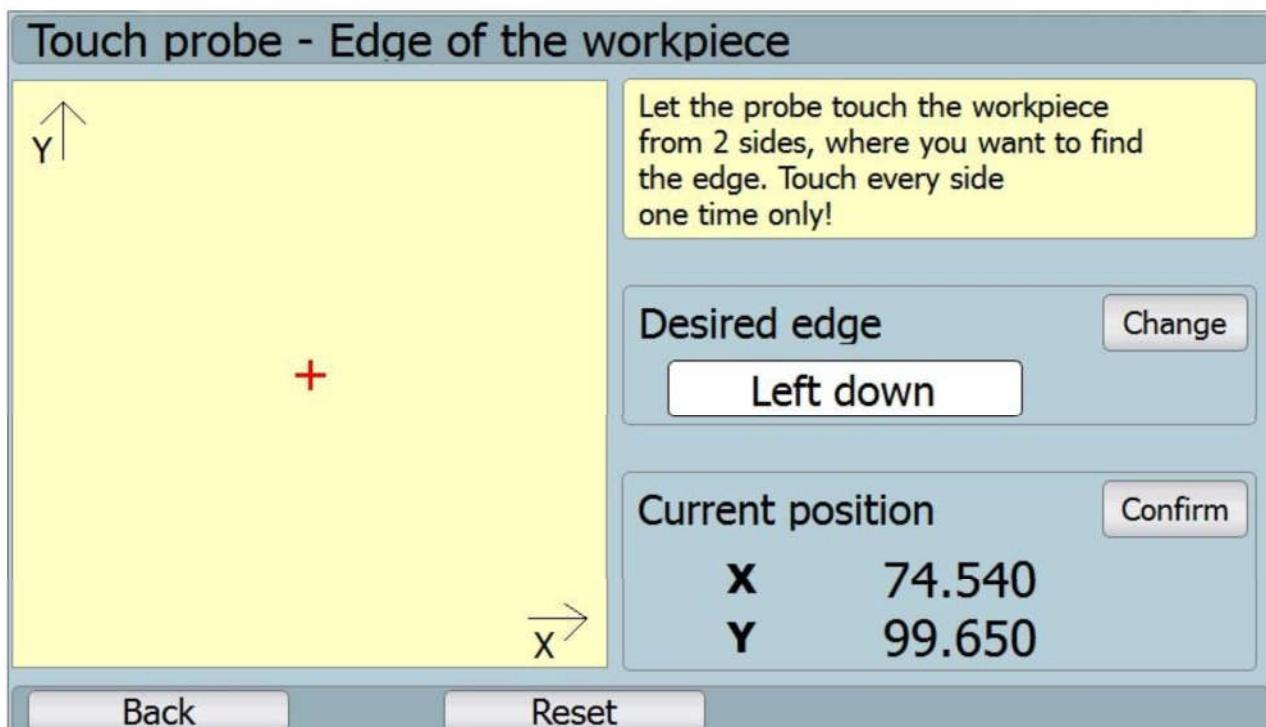
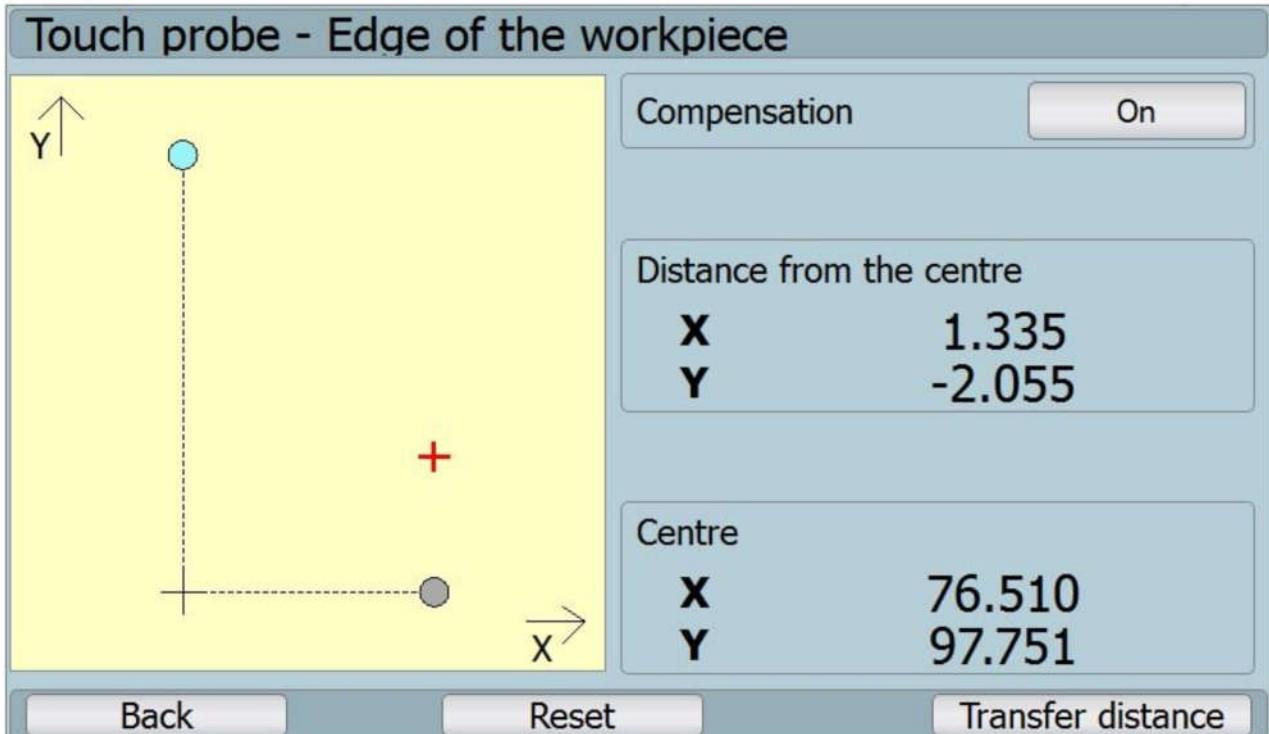

Fig. 50: Touch probe – workpiece edge
Fig. 51: Touch probe – workpiece edge – found centre
- ⑩ It is used for finding the rectangular (square) workpiece edge entered by means of two points on the touch probe.
- ⑩ At first set the searched edge with button „Zmenit“ (change) at the searched edge (see fig. 50: Touch probe – workpiece edge)
- ⑩ Move the touch probe on the workpiece walls to find the edge.
- ⑩ After the probe reaches the required coordinate, press button „Potvrdit“ (confirm) to draw their position and found centre of the workpiece edge (see fig. 51: Touch probe – workpiece edge – found centre).
- ⑩ It displays value of coordinates of the found edge centre, and it displays data on the workpiece edge centre distance from the touch probe coordinates.
- ⑩ Button „Zapnuto/Vypnuto“ (on/off) for the compensation edits values of the edge centre coordinates as per the defined compensation received during the calibration of the touch probe on the circle (see chapter Chyba! Záložka není definována.).
- ⑩ Button „Reset“ sets everything into the initial setting.